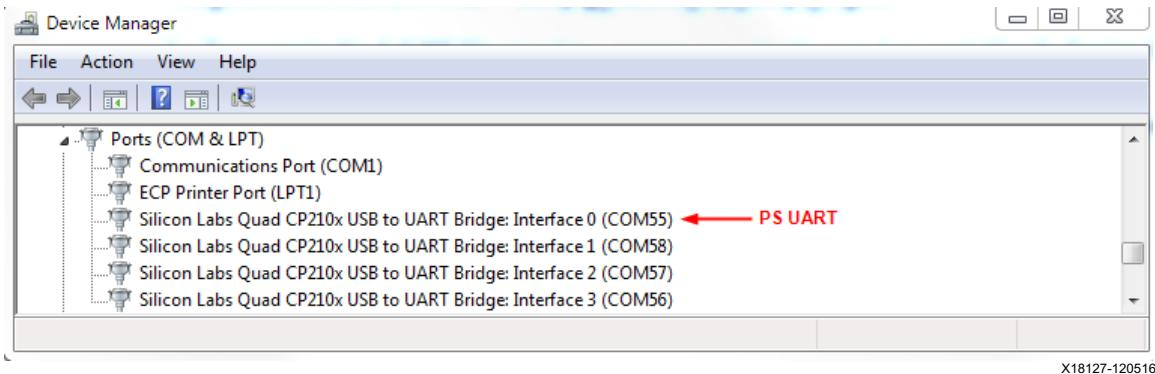

Figure 23: COM Port Selection for the Design
- b. In Tera Term, select the **COM XX** port associated with the **Silicon Labs Quad CP210x USB to UART Bridge: Interface 0 (COMXX)** for the PS UART in the **Device Manager**, where **COM XX** depends on your computer. See Figure 23.